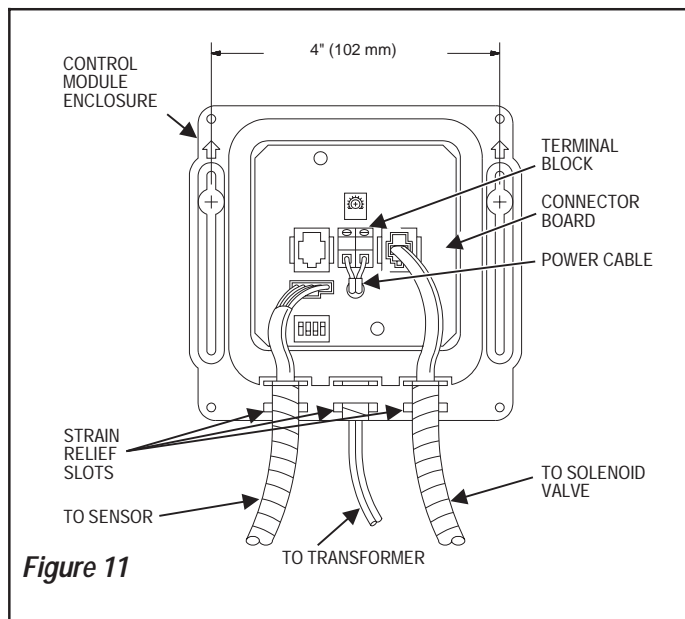

Figure 11
Separate and strip one end of Transformer Power Cable approximately 3/16 to 1/4 inch (5 to 6 mm). Install Transformer Strain Relief 3 inches (76 mm) from stripped end of Power Cable. Squeeze Strain Relief with a pliers and insert Power Cable and Strain Relief into 3/8 inch (10 mm) hole at back of Control Module as shown in Figure 8. Always install right angle Strain Relief so that Power Cable enters the Control Module from the bottom. Connect Power Cable to Terminal Block on Connector Board as shown in Figure 11.
Step 8 — Control Module Connection (Figures 11 thru 13)